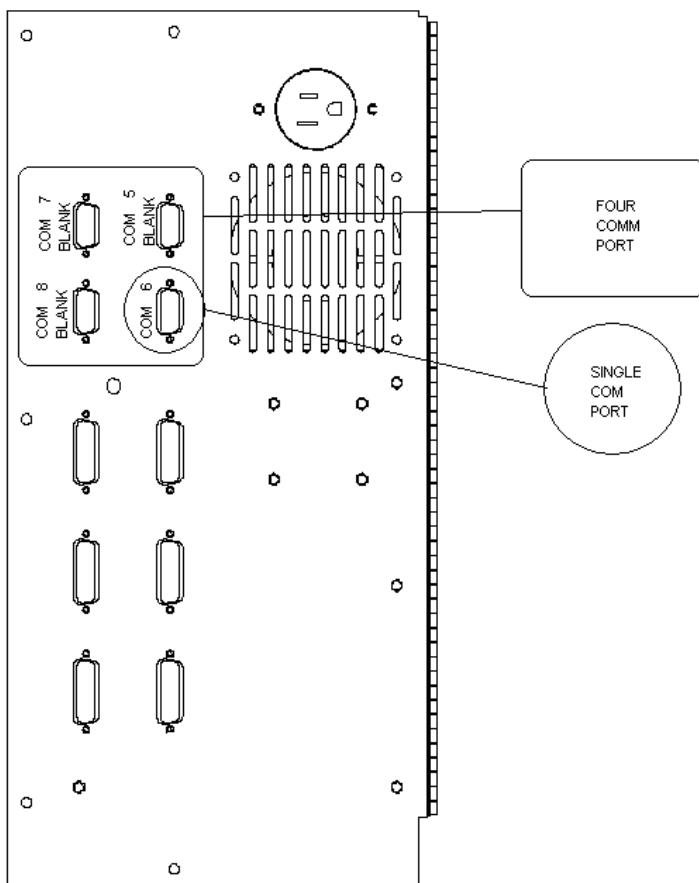
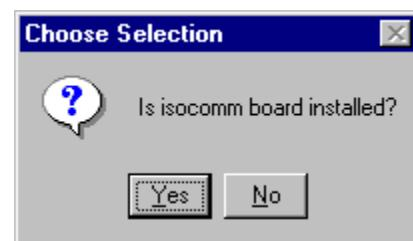

FIGURE 43. Vitalbus Communication Port Options
FIGURE 44. Isocomm Dialog
- 8.77 Examine the communication ports on the Vitalbus assembly. If you have four communication ports - COM 5, COM 6, COM 7 and COM 8 (see Figure 43), then touch the 'Yes' button for 'Is isocomm board installed?' in the dialog box shown in Figure 44. Select the 'No' button if COM 5, COM 7 and COM 9 are covered with blank plates.